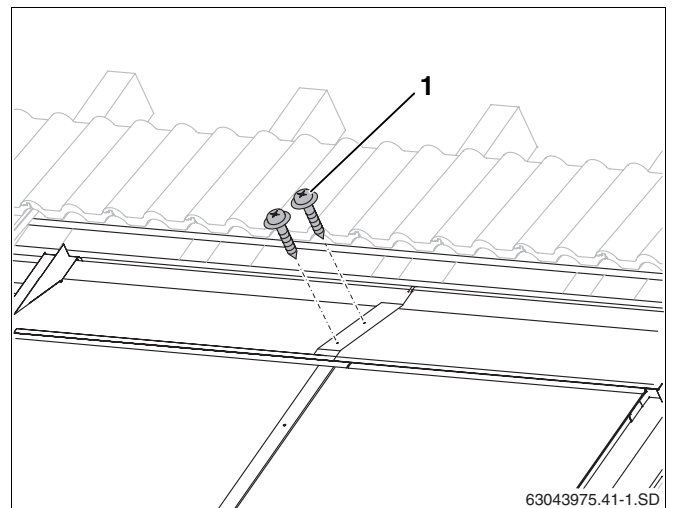

Fig. 57 Joining upper facing panels with screws
- ▶ Fasten each panel overlap with two 25 mm long plumbing screws (Fig. 57, **Item 1**) (provided).